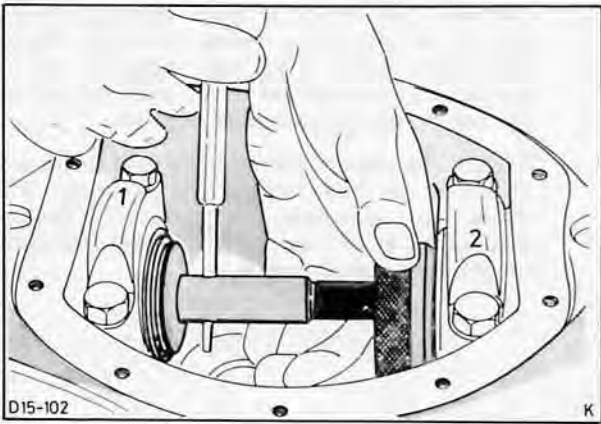

Fig. 71. Set up gauge bar special tool no. 15-019
19. Hold gauge bar still with suitable mandrel, Fig. 71, and turn adjusting nut outwards until gauge bar can just be turned by hand by the adjusting nut (after removing mandrel). Turn gauge bar several times so that bearings seat correctly.